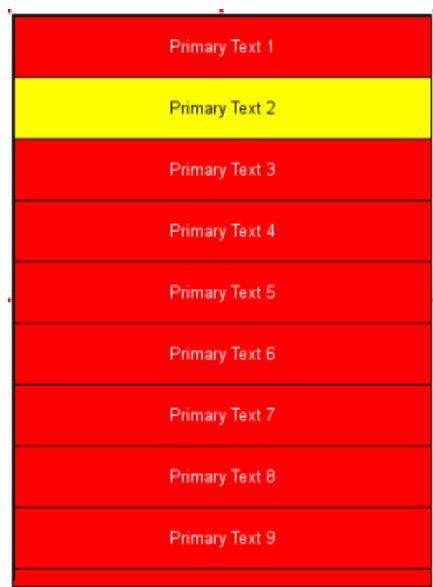

FIG. 162 TPDesign5 - Listview button
2. In the General tab of the Properties window, select Listview as the Type (FIG. 162):